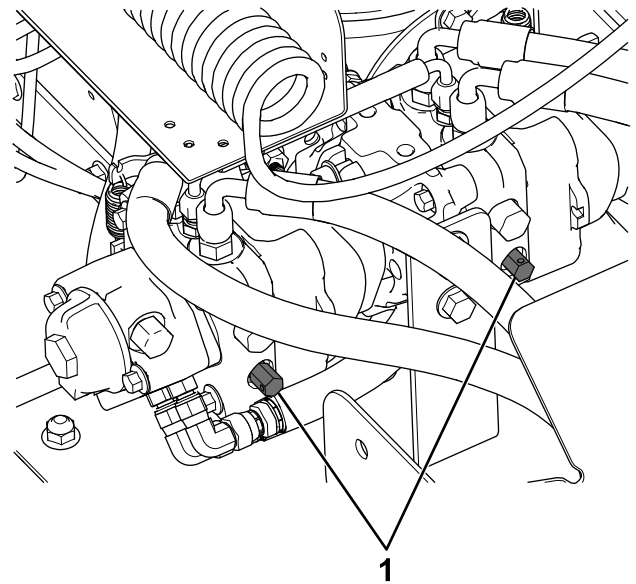

Figure 26
1. Open the bypass valves on the hydraulic pump by turning them counterclockwise 1-1/2 turns (Figure 26).